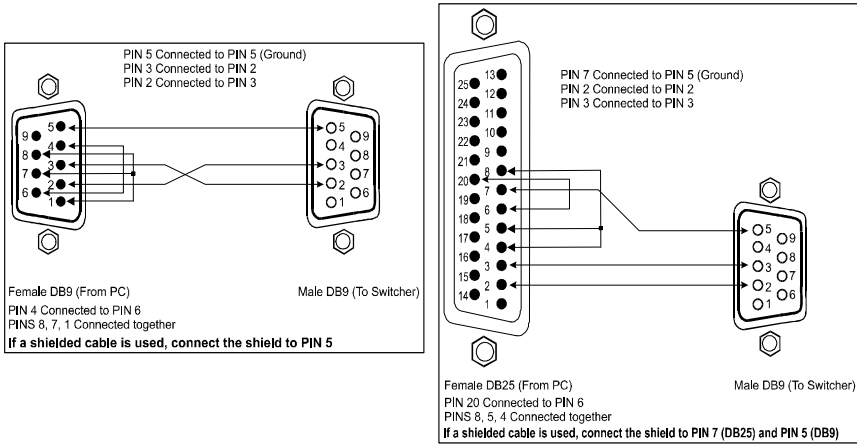

Figure 3: Connecting a PC without using a Null-modem Adapter
- Connect the RS-232 DB9 port on your PC to the RS-232 DB9 rear panel port on the **FC-7402** unit, as Figure 3 illustrates (depending on whether the PC has a 9-pin or 25-pin connector)